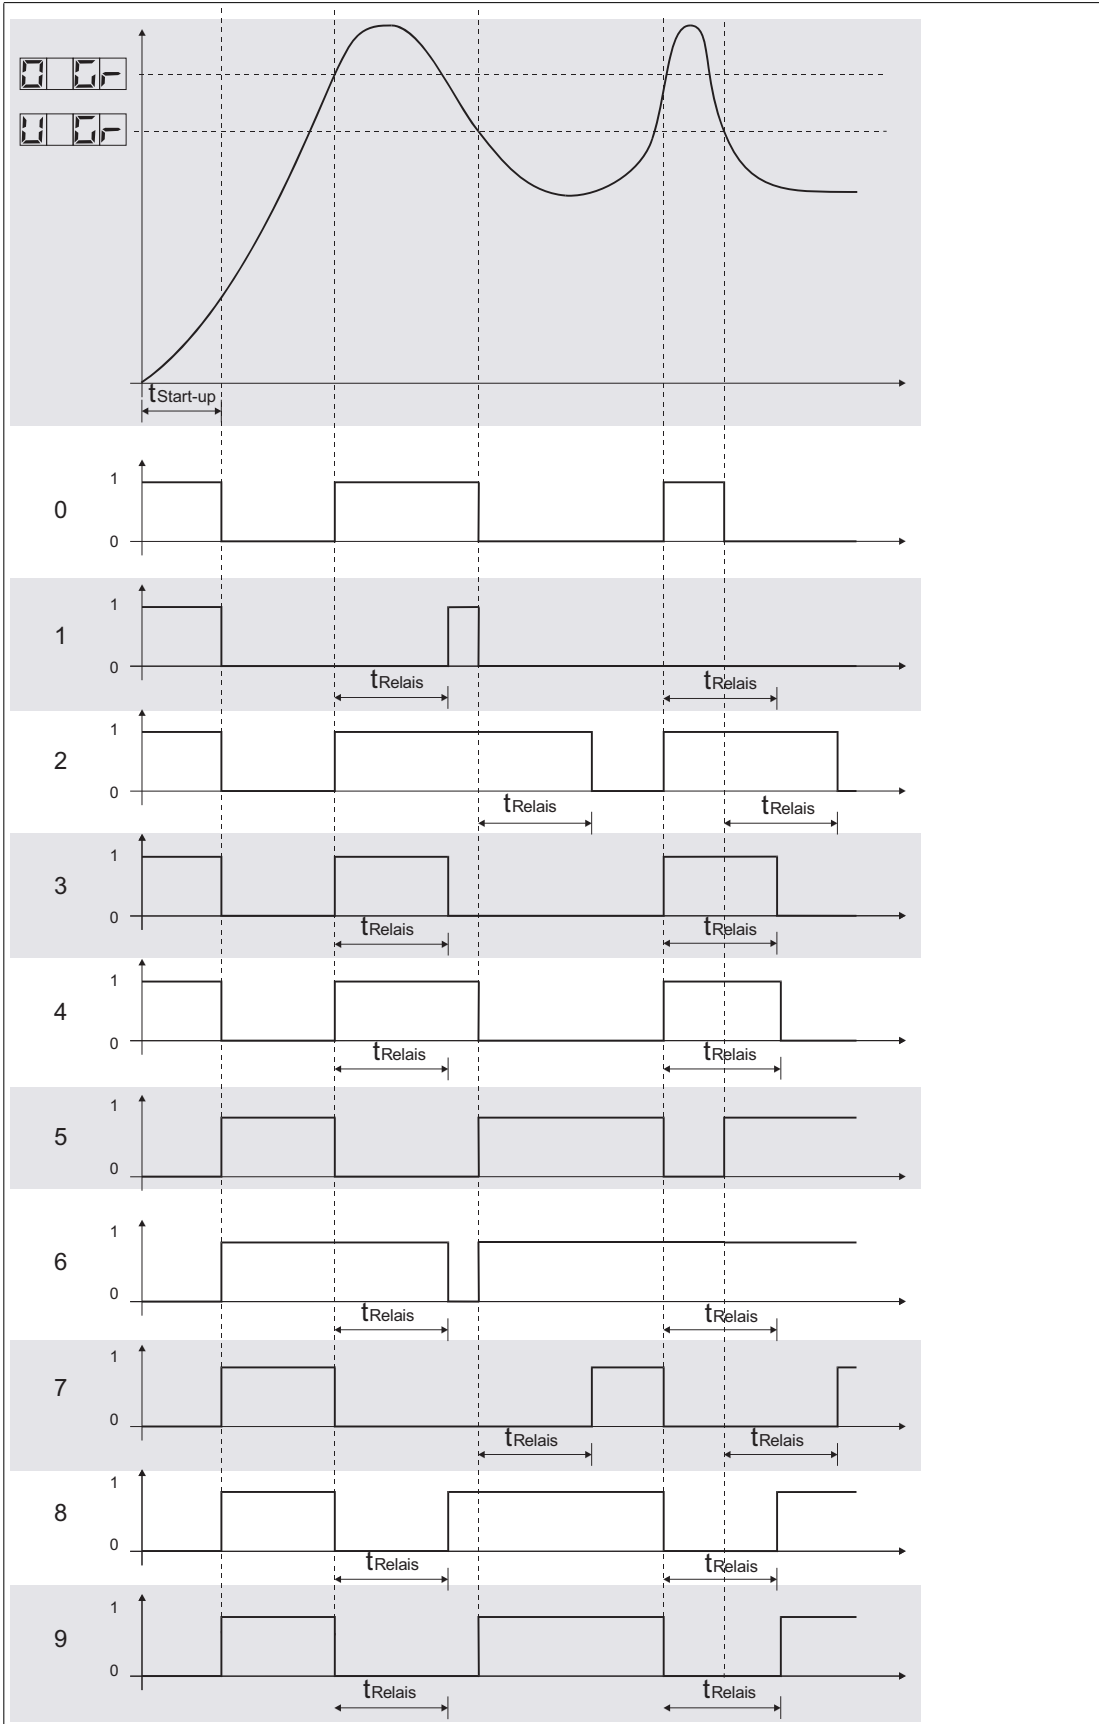

Figure 3.1 Timer functions, reversal of direction of action of the output relay
**Pulse extension** ensures that the relay operates when the upper limit is exceeded and switches off again as soon as the preset time (not retriggerable) elapses. → see Figure 3.1 on page 12